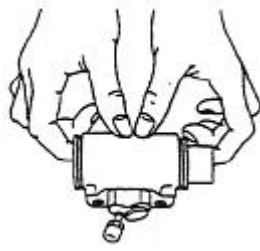

Figure 5
(5) Remove the brake pipe from the brake cylinder, then remove the mounting bolts of the brake cylinder and remove the brake cylinder from the brake base.as figure 5